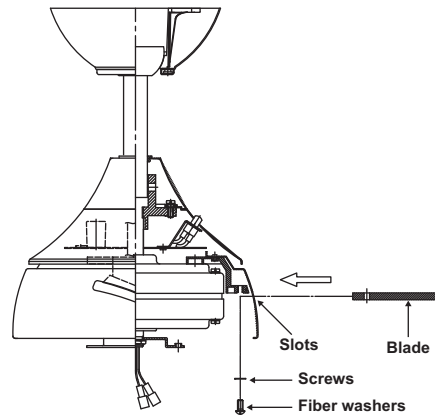

Figure 14
Step 1. Insert the blade through the slot on the motor housing. Align holes and fasten the blade to the blade bracket with screws and fiber washers provided. (Fig. 14)